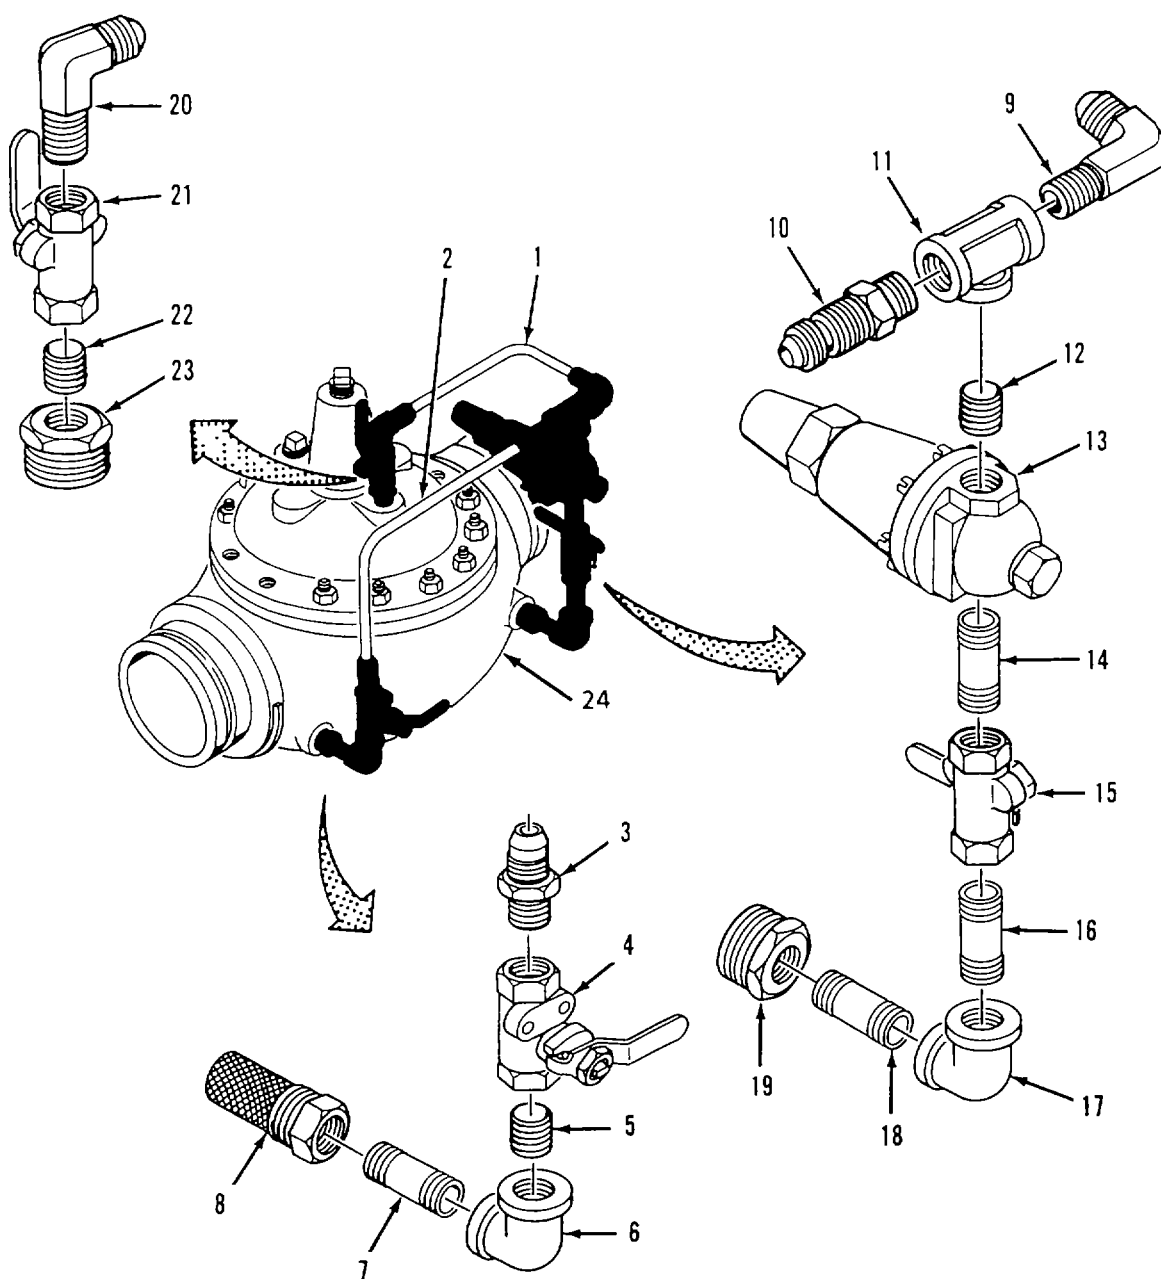
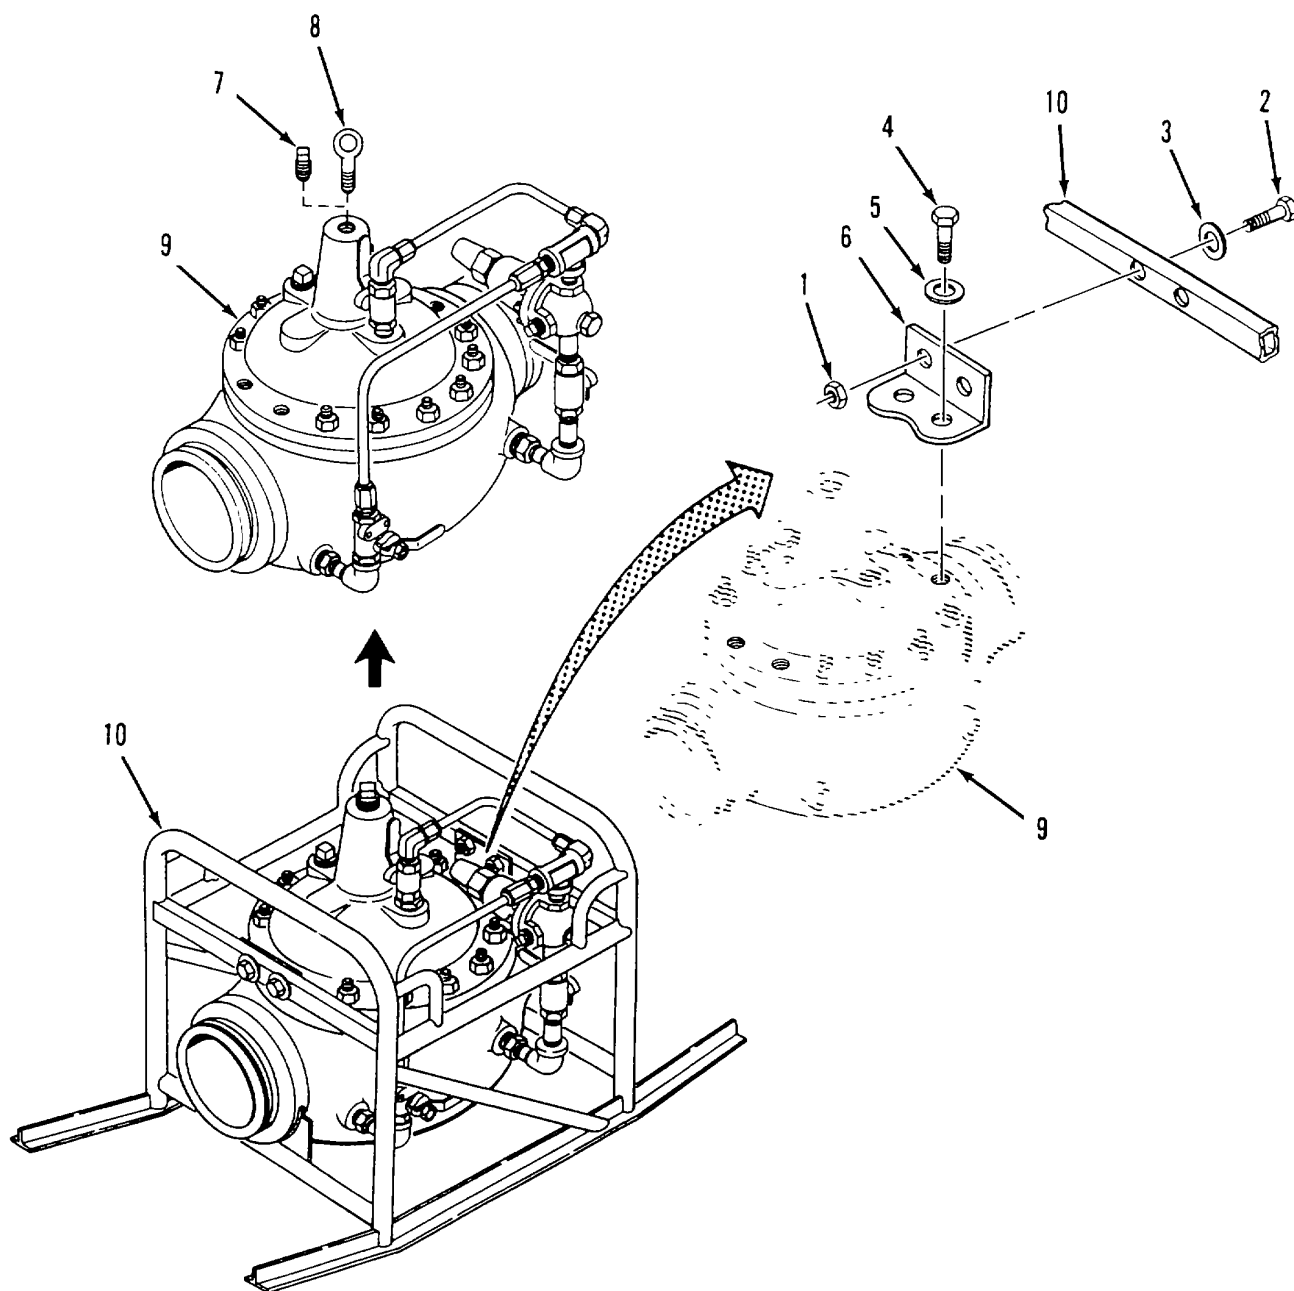

Figure 4-21. Pressure Regulating Valve Piping Installation.
Figure 4-22. Pressure Regulating Valve Installation.
- (14) While matching alignment marks made during disassembly, lower cover (4) over stem (15) and onto valve body (20).
- (15) Install eight nuts (1) on cover (4) until handtight.
*Assemble Bypass Piping. Refer to figure 4-21.*
- (18) Screw valve (21) onto 1-inch nipple (22). Make sure valve is positioned so that handle is pointing up when valve is open.
- (19) Screw elbow (20) onto valve (21). Elbow must be positioned to allow connection of line (1).
*Assemble Outlet Piping. Refer to figure 4-21.*
- (20) Screw bushing (19), 1½ inch nipple (18) and elbow (17) into pressure regulating valve (24).
- (21) Screw 2 ½-inch nipple (16) and valve (15) onto elbow (17). Position valve so that handle is pointing up when valve is open. Make sure handle will not hit side of pressure regulating valve (24) when handle is operated.
- (22) Screw 3-inch nipple (14) and regulating valve (13) onto valve (15). Regulating valve must be positioned as shown.
- (23) Screw 1-inch nipple (12) and tee (11) onto regulating valve (13).
- (24) Screw elbow (9) and restrictor (10) onto tee (11)
- (25) Position line (1) between elbow (9) and elbow (20) Adjust position of elbows as required, then connect both ends of line to elbows.
*Assemble Inlet Piping. Refer to figure 4-21.*
- (26) Screw 1-inch nipple (5), elbow (6), 2-inch nipple (7) and strainer (8) into pressure regulating valve (24)
- (27) Screw valve (4) onto 1-inch nipple (5) Position valve so that handle is pointing up when valve is open Make sure handle will not hit side of pressure regulating valve (24) when handle is operated
- (28) Screw connector (3) onto valve (4).
- (29) Connect line (2) between connector (3) and restrictor (10).
*Install Valve. Refer to figure 4-22.*
- (36) Remove eyebolt (8, figure 4-22) from top of pressure regulating valve (9) and install plug (7).
- (37) Install pressure regulating valve in water system (para 3-4).
- (38) Startup water system (para 2-13c) and check pressure regulating valve for leaks.